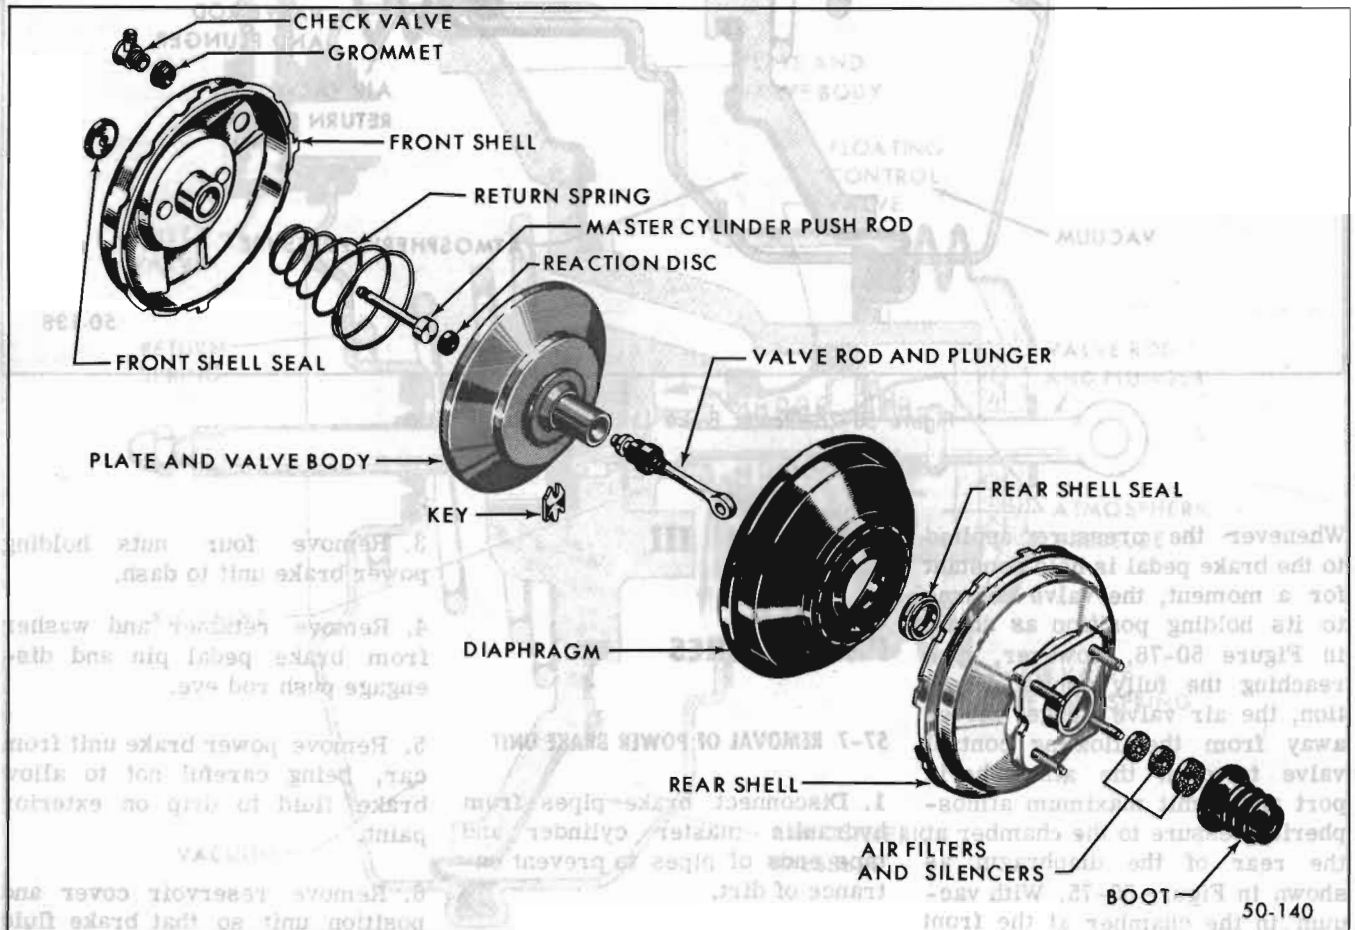

Figure 50-78—Bendix Power Brake - Exploded View
6. Remove seal from front shell, and if defective, vacuum check valve. See Figure 50-78.